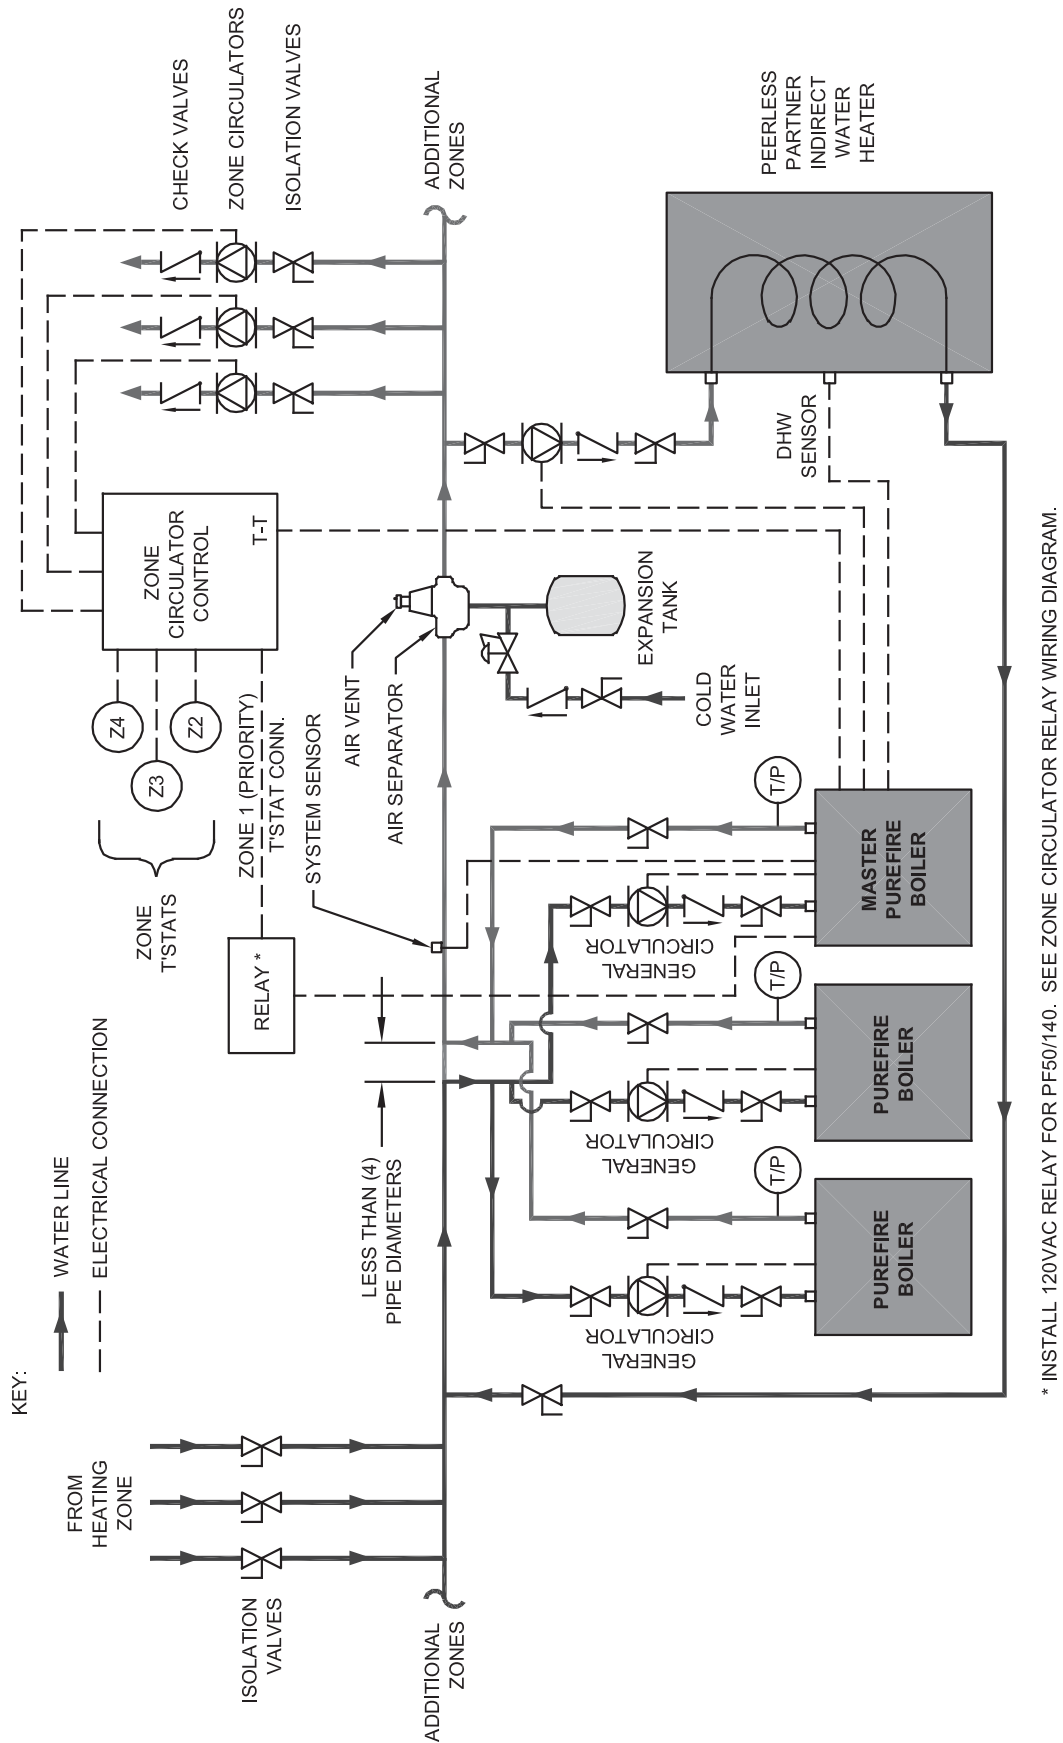

Figure 8.9: Multiple Boiler (Cascade) Piping / Electrical Connections for Systems with Zone Circulators
- Figure 8.9 shows a typical system which uses a circulator zone control panel to control the central heating zones.